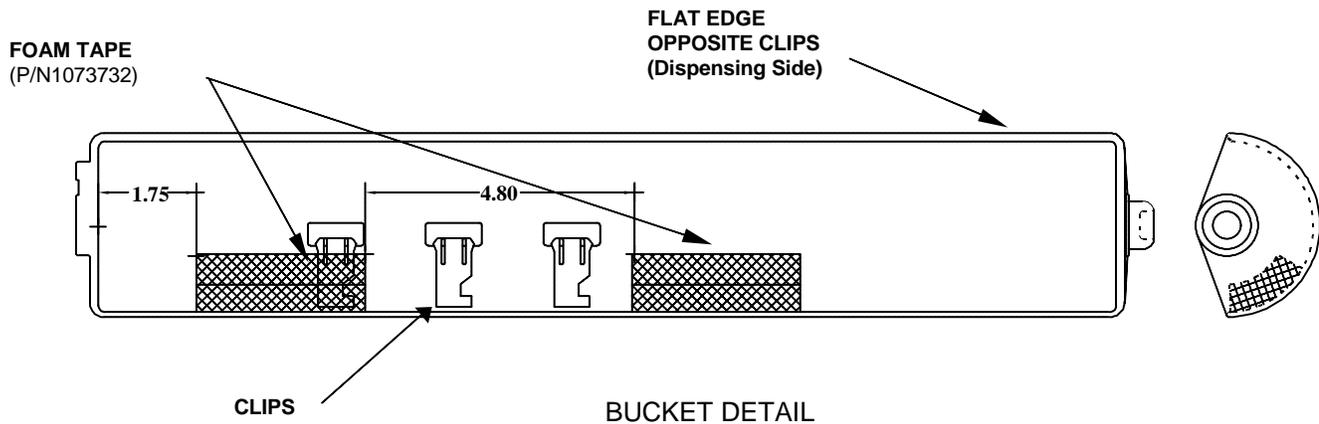

Figure 2
- Step #7** Install foam pads (P/N1073732) into bucket. (See Figure 2)